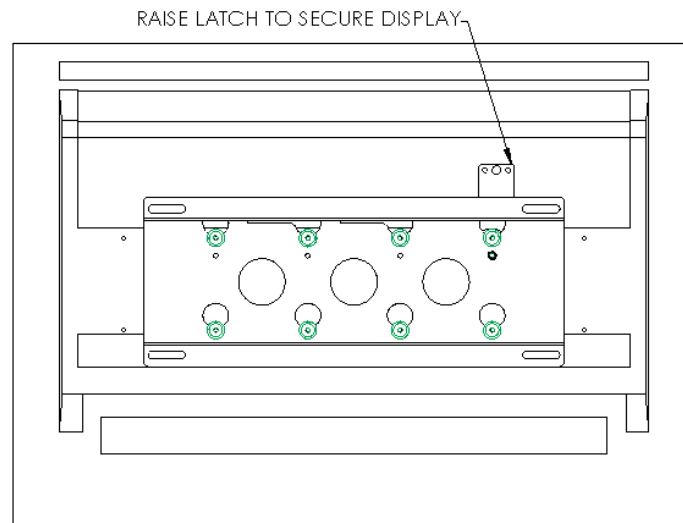

Figure 5
5. With the aid of another person, lift the display up to the mount, align the mounting buttons with the teardrop slots in the mount, and set the LCD into place (see Figure 5).